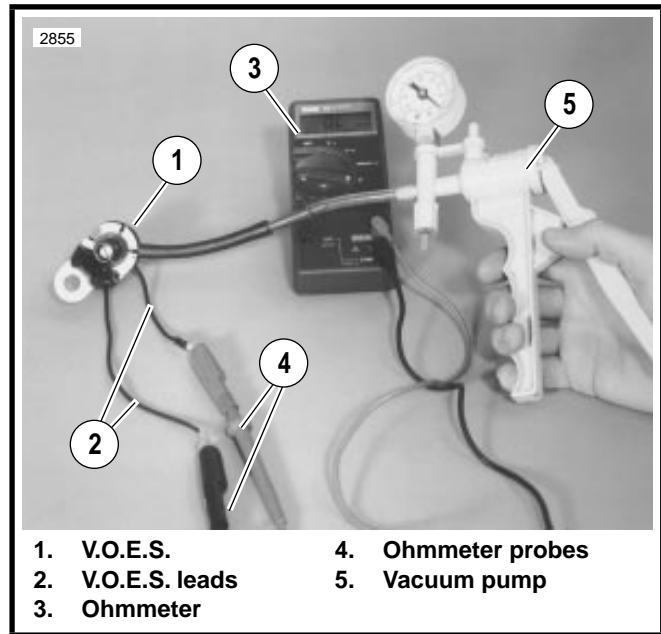

Figure 1-45. Checking V.O.E.S. Using Ohmmeter and Vacuum Pump
2. See Figure 1-45. Connect two ohmmeter leads to the two V.O.E.S. leads.